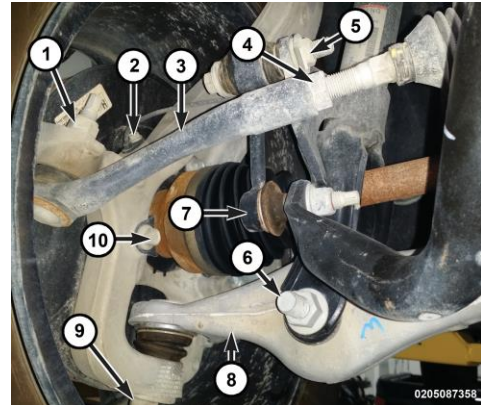

Figure 18 – Tie Rod End Nut
36. Remove tie rod end nut (1) (Figure 18).